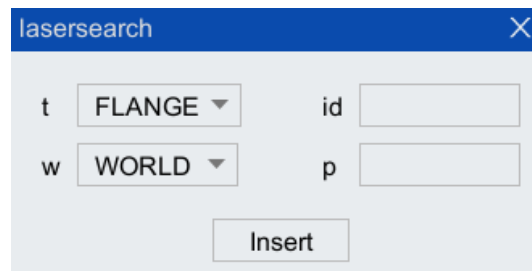

Figure 8-27 Laser search parameter configuration
Step1. Click [Insert cmd/Function Pack/weld/Welding command/Lasersearch] to enter the laser search auxiliary programming instruction interface. As shown in Figure 8-27. The parameter description is shown in Table 8-6 Parameter Description.